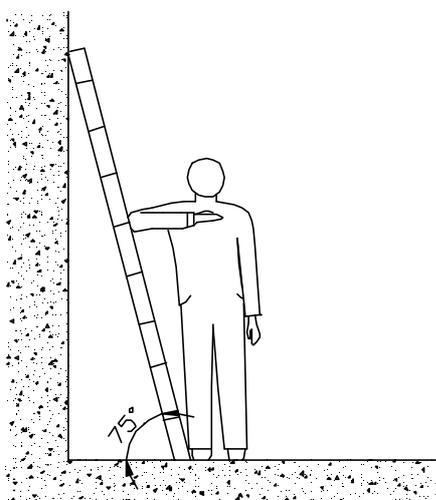

Figure 2 The angle at which the ladder should be leaned
- When operating under the conditions that the leaning distance of the ladder is over 5m measurement, and that of the erected ladder with two-foot is over 3meters, and other dangerous environment, the ladder should be held by somebody or relevant safe measures should be effected. The A-shaped ladder should be completely stretched for using, as shown in Figure 2 below.